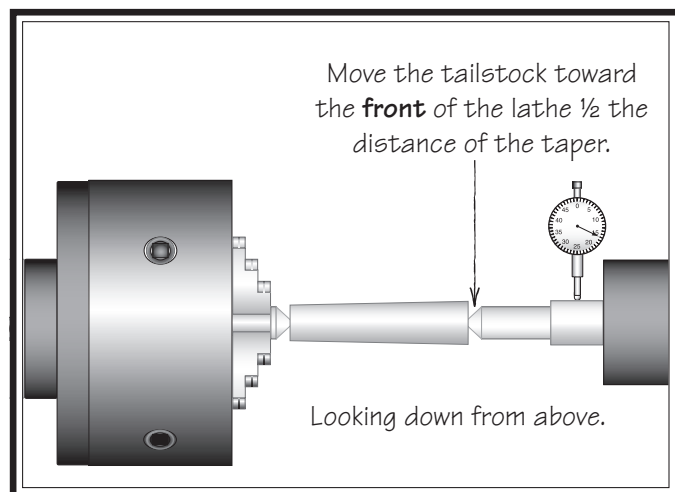

Figure 54. Adjust tailstock toward the operator.
- If the test stock is *thicker* at the tailstock end, move the tailstock toward the *front* of the lathe $\frac{1}{2}$ the distance of the amount of taper (see **Figure 54**).